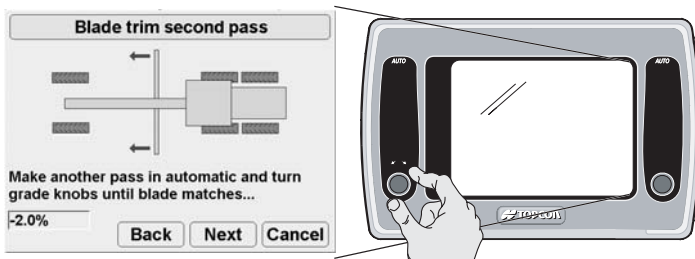

Figure 4-14. Adjust Blade Slope
6. If the cutting edge does not match, turn either **Grade Adjustment Knob** to get the blade to match (Figure 4-14). The Slope indication at the lower left of the dialog box changes accordingly.